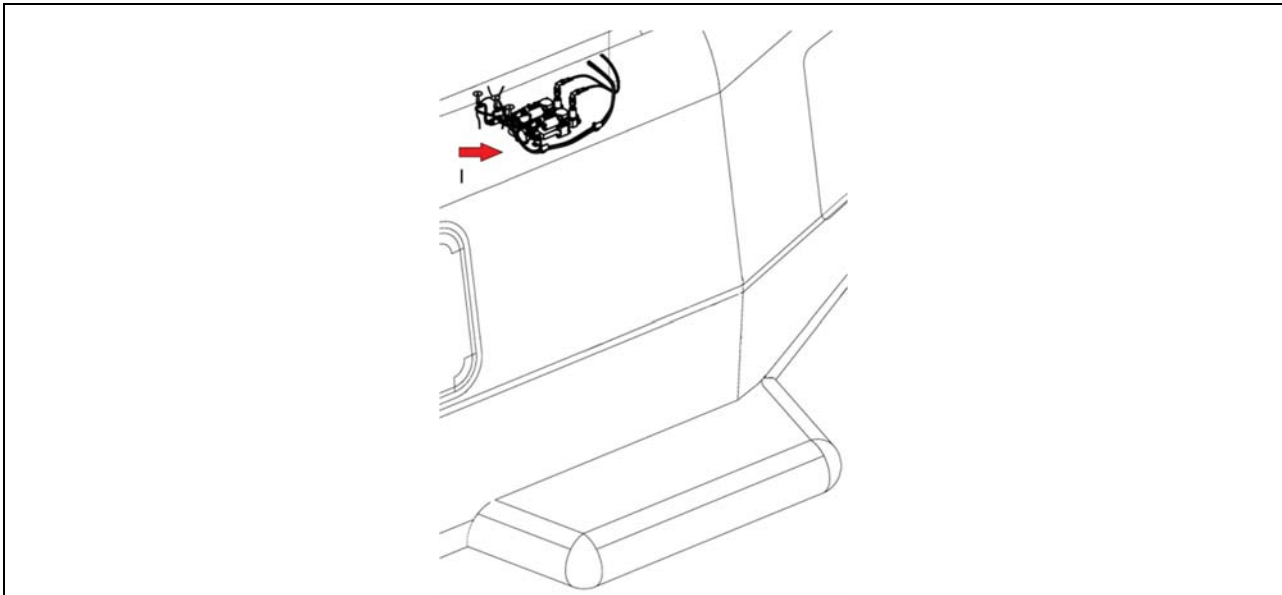

Figure 11 – Clippings Main View
7. Install clippings per Figure 11 and Figure 12 (Detail I).